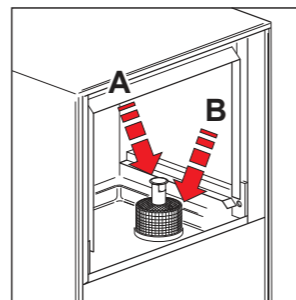

Fig.2
9. Firstly remove any (food) particles from the base of the wash tank and only then remove the plastic pump filters (B) Fig.2 and clean under running water. Refit the filters and flush out the wash tank.